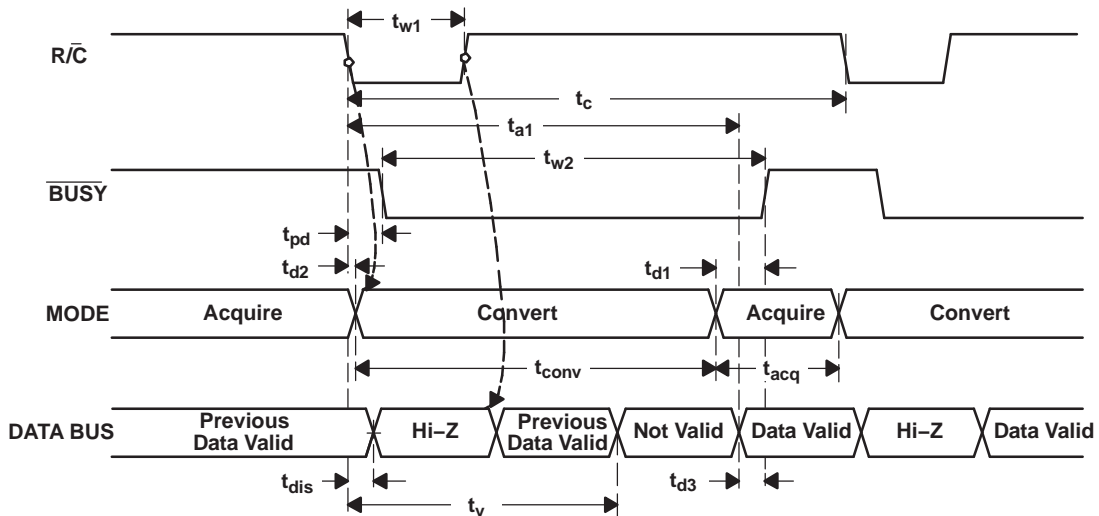
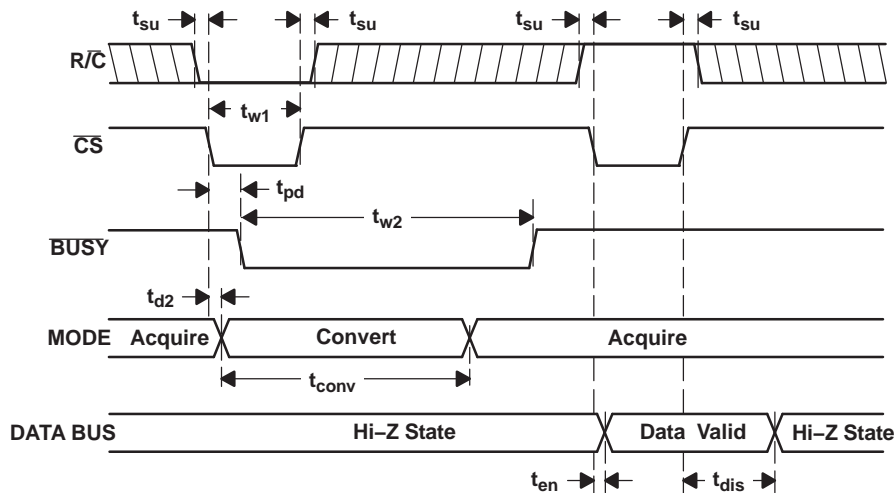
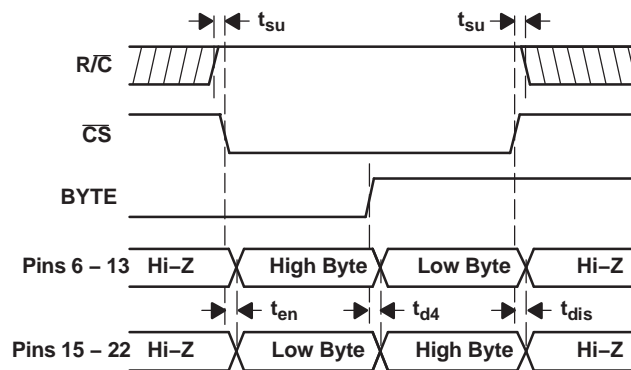

Figure 21. Conversion Timing with Outputs Enabled after Conversion (\overline{CS} Tied Low)
Figure 22. Using \overline{CS} to Control Conversion and Read Timing
Figure 23. Using $\overline{\text{CS}}$ and BYTE to Control Data Bus
The ADS8515 begins tracking the input signal at the end of the conversion. Allowing 4 μs between convert commands assures accurate acquisition of a new signal. Refer to Table 1 for a summary of $\overline{\text{CS}}$, $\text{R}/\overline{\text{C}}$, and $\overline{\text{BUSY}}$ states and Figure 21, Figure 22, and Figure 23 for the timing diagrams.
(1) See Figure 21 and Figure 22 for constraints on data valid from conversion $n-1$.
After conversion n is completed and the output registers have been updated, \overline{BUSY} (pin 26) goes high. Valid data from conversion n is available on D15-D0 (pins 6-13 and 15-22). \overline{BUSY} going high can be used to latch the data. Refer to Table 3 and Figure 21, Figure 22, and Figure 23 for timing specifications.
After conversion n has been initiated, valid data from conversion -1 can be read and is valid up to t_2 after the start of conversion n . Do not attempt to read data from t_2 after the start of conversion n until \overline{BUSY} (pin 26) goes high; this may result in reading invalid data. Refer to Table 3 and Figure 21, Figure 22, and Figure 23 for timing specifications.
The number of control lines can be reduced by tying \overline{CS} low while using the falling edge of R/\overline{C} to initiate conversions and the rising edge of R/\overline{C} to activate the output mode of the converter. See Figure 21.